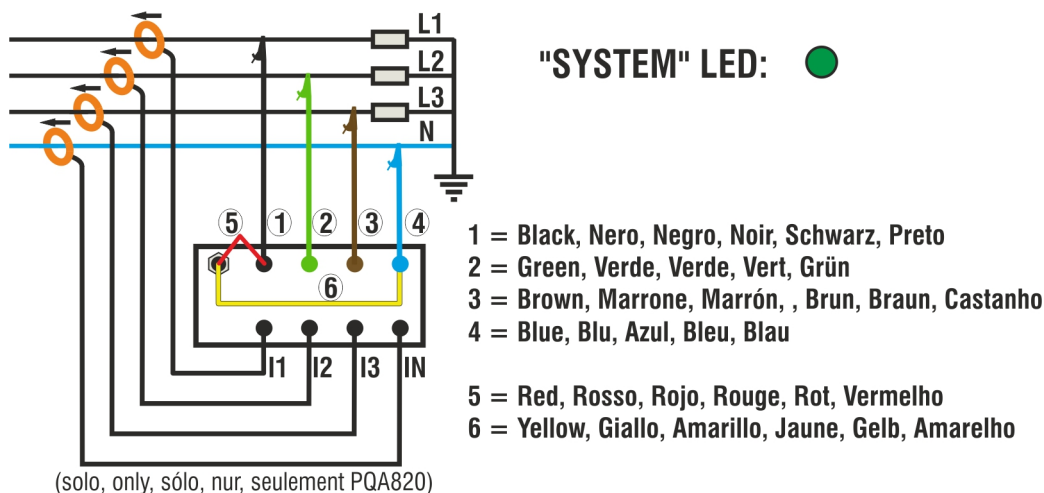

Fig. 4: Connection of the instrument to a three-phase 4-wire system
2. Connect the supply terminals (red and yellow) respecting the connections indicated in the Fig. 4
3. Connect the cables of the phase voltages L1, L2, L3, respecting the connections indicated in the Fig. 4. Connect the blue cable to the system's neutral.
4. If you want to measure currents and powers, connect the clamp meters to the phase conductors, **respecting the direction indicated on the clamps** and the connections indicated in the Fig. 4